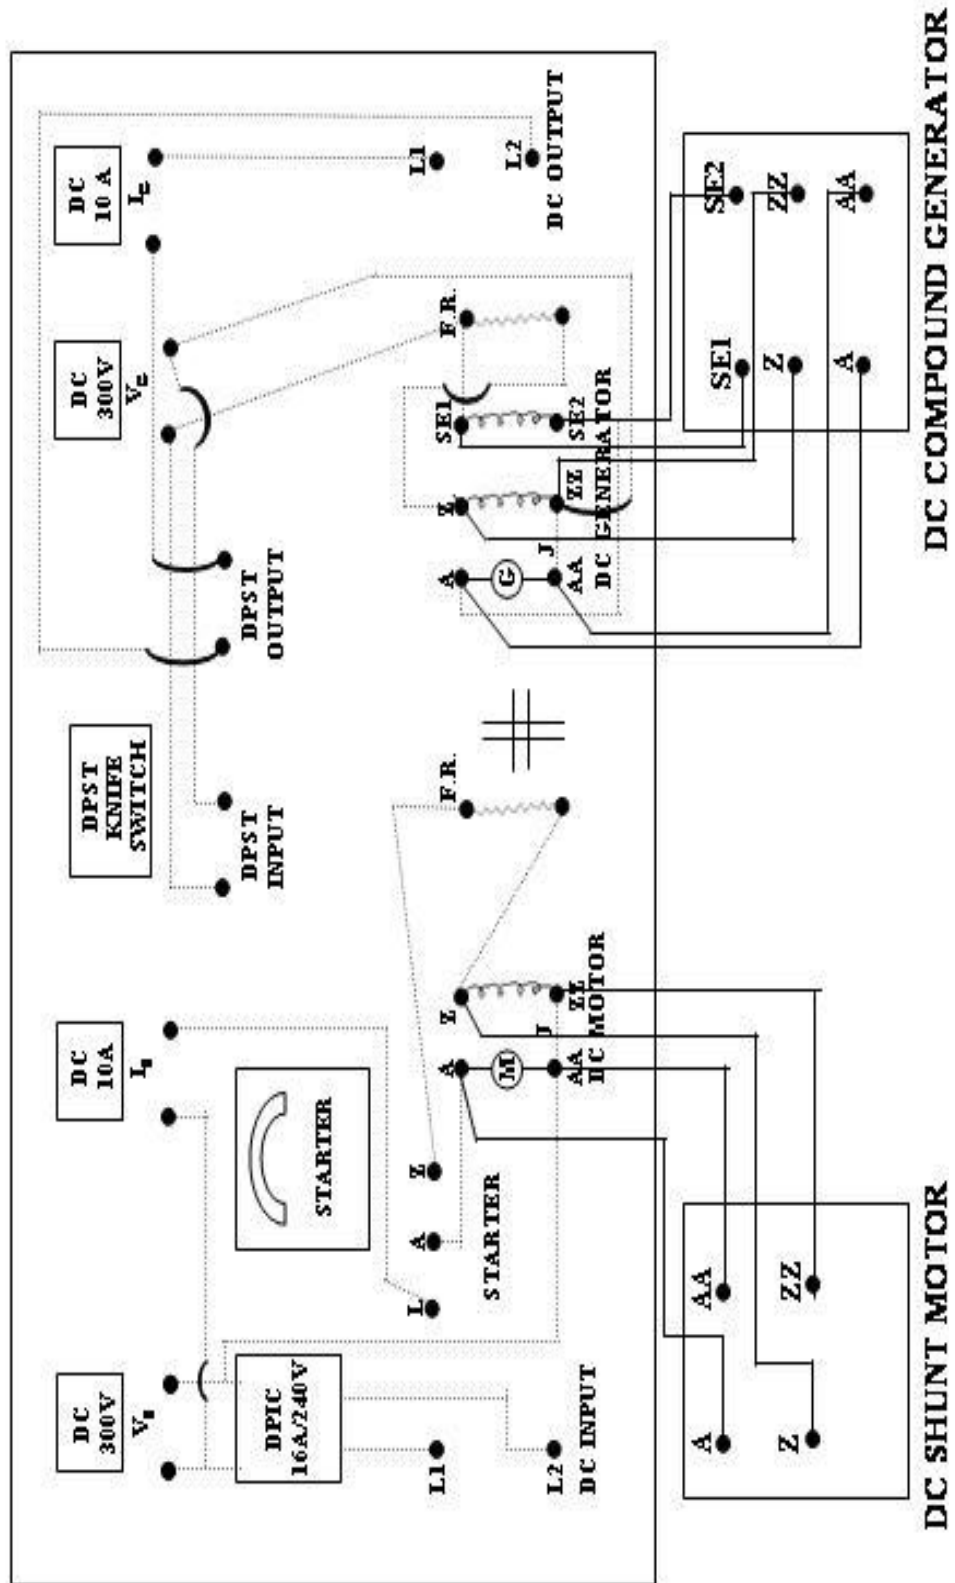

Fig 1: Load test on DC generator.
9. Connect the circuit of motor and generator as per Fig 1 .